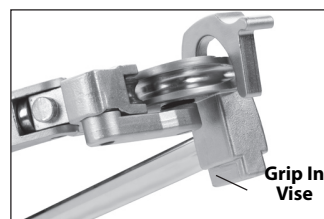

Figure 2 – Vise Mounting Point
1. Grasp bender by the Form Handle or mount the bender in vise (Figure 2).